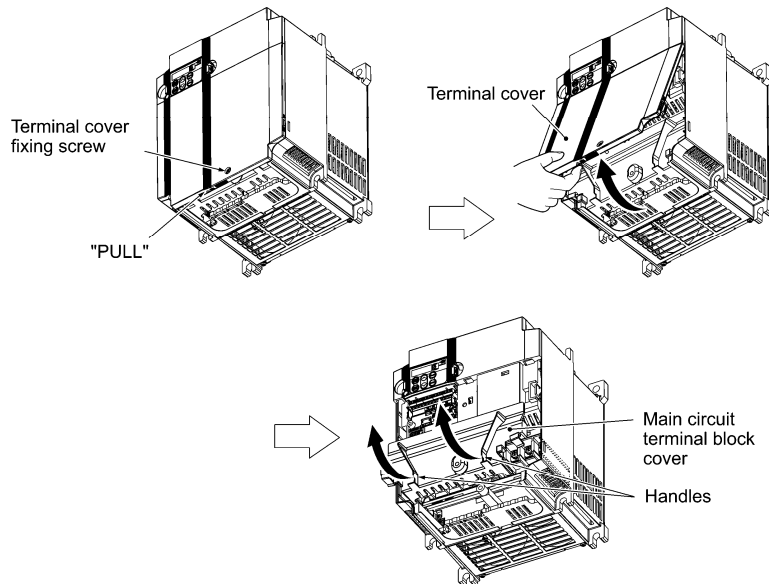

Figure 4.4 Removing the Covers (For Inverters with a Capacity of 11 and 15 kW)
(3) For inverters with a capacity of 11 and 15 kW
- ① To remove the terminal cover, first loosen the terminal cover fixing screw, put your finger in the dimple of the terminal cover (labelled "PULL"), and then pull it up towards you.
- ② To remove the main circuit terminal block cover, hold the handles on the both sides of the main circuit terminal block cover, and pull it up (Refer to figure 4.4)